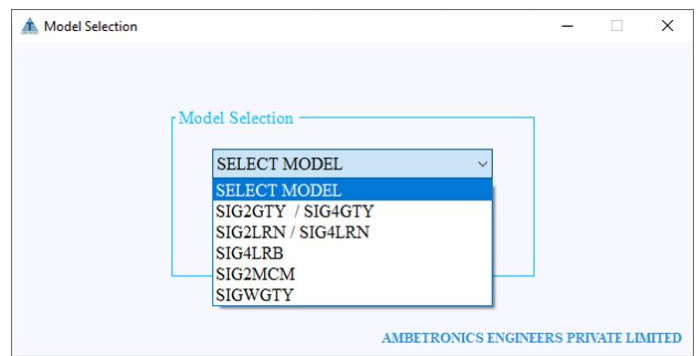

Figure 18
- For connecting device properly with software check “COM” port number. If it is not available click on “Refresh” button  and select proper Communication Port then Change the Baud rate, Parity, Stop bits accordingly as shown in Figure 18 then click on  “Connect” button of software